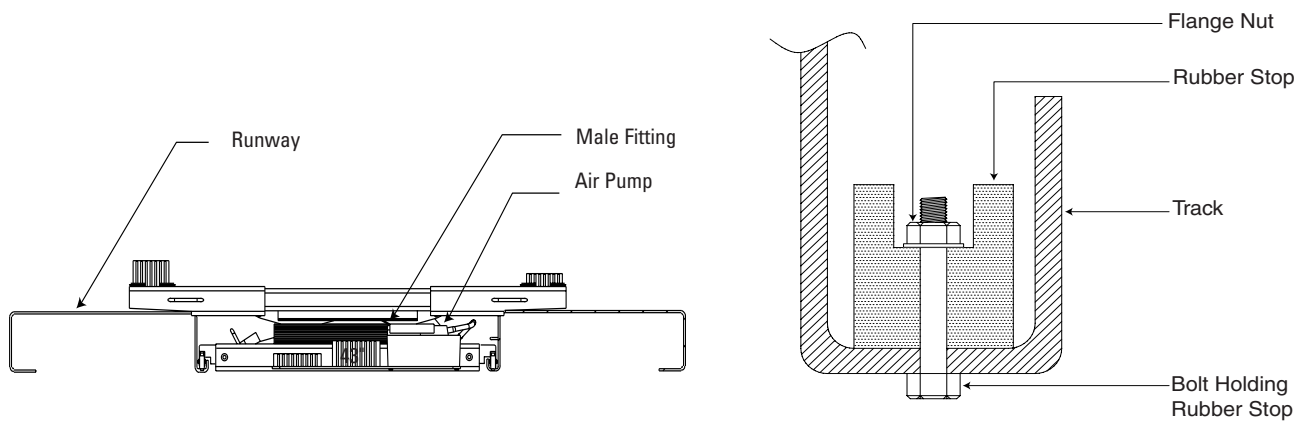

Fig. 28
- a. Adjust locking latch bar adjusting nut so that the bottom of the topmost latch bar slot is at least 2" below locking latch, Fig. 28. After adjustment, tighten jam nut underneath column top plate, Fig. 28.
- B. Place jack on runway track at front and rear with air pump facing ends of runway, Fig. 28.
- D. Attach rubber stop see Fig. 28.